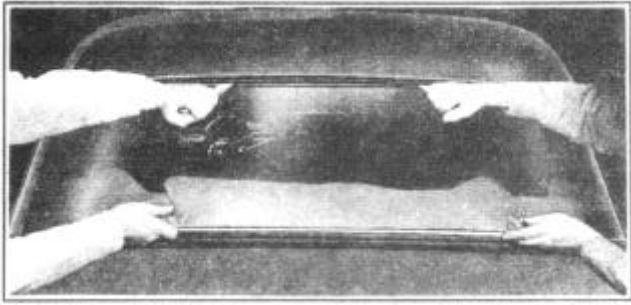

FIGURE 69
1. With the aid of an assistant, enter the glass into both side openings of the weatherstrip and while pushing glass upward, use a tapered fibre block to open the channel in the weatherstrip to enter the glass, Figure 69.